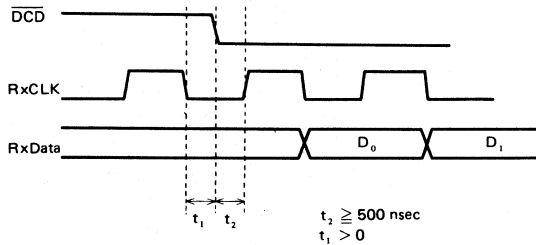

Figure 14  $\overline{\text{DCD}}$  Input Timing in External Sync Mode
- (1)  $\overline{\text{DCD}}$  and RxCLK should meet the relation shown in Fig. 14.